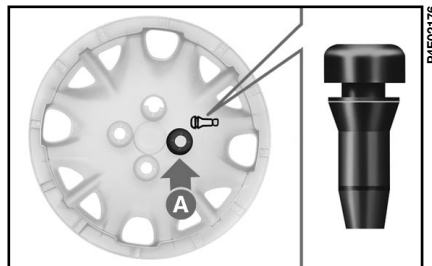

fig. 8
10) Fit the wheel cup in order that the biggest hole **A**-fig. 8 is aligned with the bolt fixing the wheel. When fitting the wheel cup make sure that the symbol , printed on the internal part of the cup, is aligned with the inflation valve.